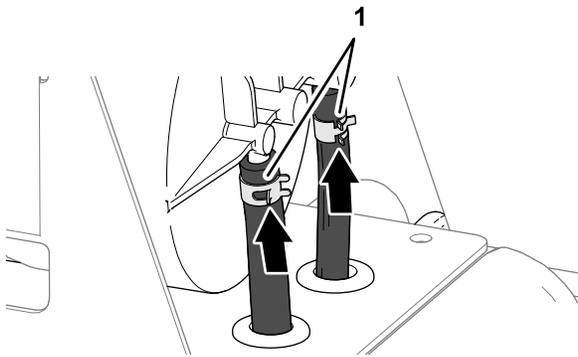

Figure 88
4. Secure the hoses to the fittings with the clamps (Figure 88)